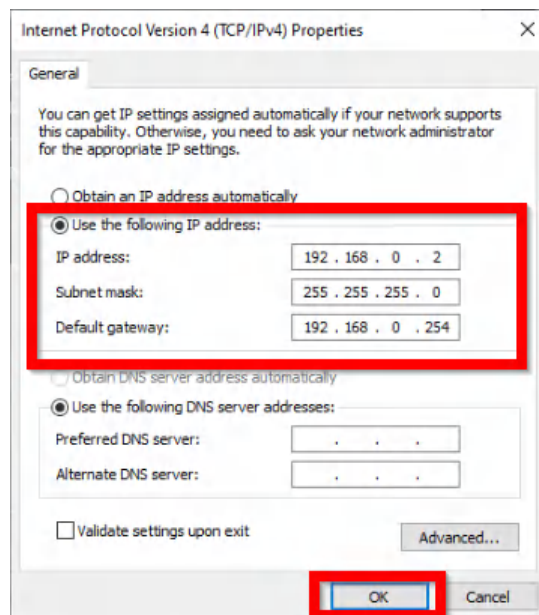

Figure A-6. Setting the IP Address Manually
6. In the window that opens select the “Use the following IP address” option and fill out the fields as shown in Figure A-6. After filling out the fields click ok and the address will be set.